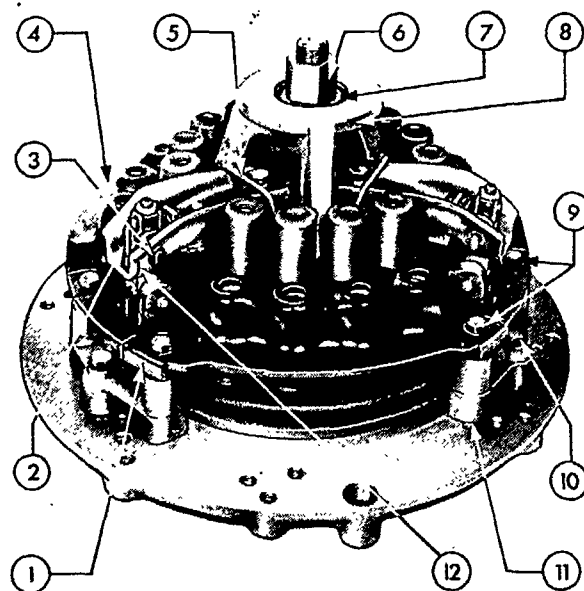
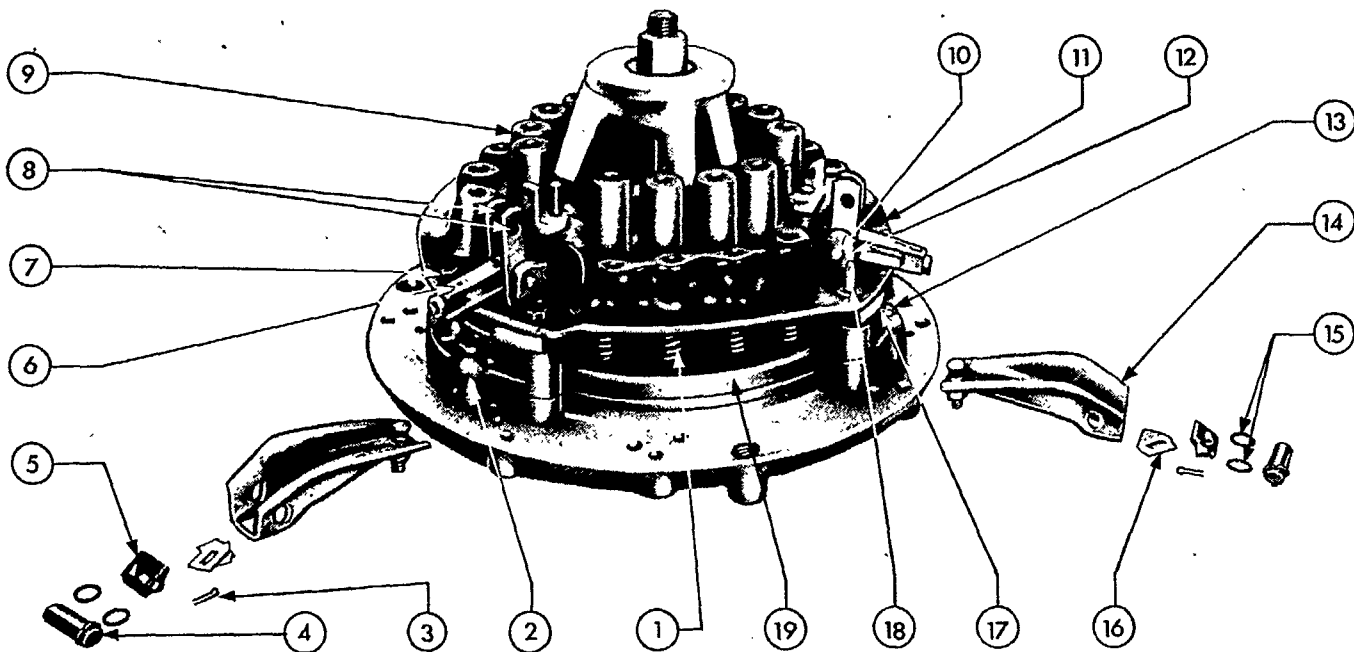
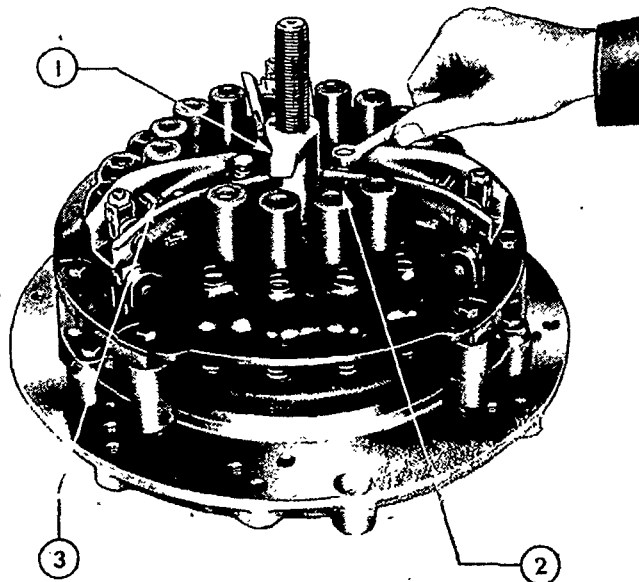
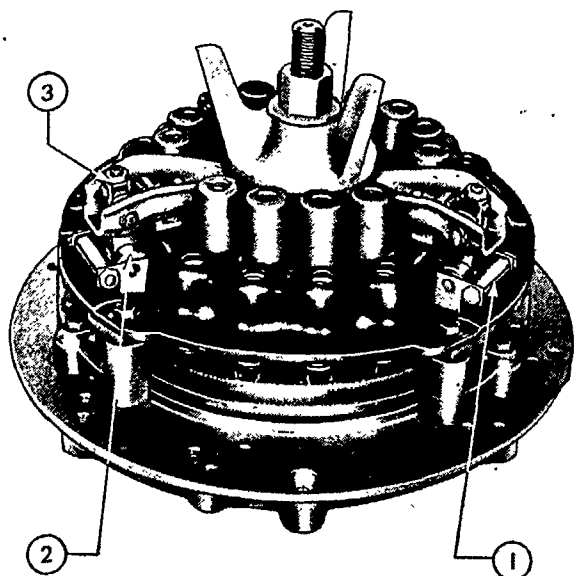

Figure 57
Figure 58
Figure 59
Figure 60
4. Attach the riser blocks to the fixture base by installing one short cap screw in each block. Figure 57 illustrates two of the blocks installed. Be sure to torque the cap screws equally.
5. Place the assembled clutch pressure plate and cover assembly on the fixture. Align the mounting holes in the clutch cover assembly with the holes in the riser blocks, and install one guide pin and one long cap screw in each block as shown in Figure 57. Do not tighten the long cap screws at this time.
6. Install the bridge, the thrust washer, and the spindle nut as shown in Figure 57. Be sure that the legs of the bridge are positioned at the center of each row of spring cups as shown.
8. After relieving spring tension on the release levers, tighten the long cap screws finger tight, then remove the release lever hold-down clips, Figure 57.
9. Remove the release lever retaining clip shims and clips, Figure 58, after first removing the cotter pins that hold them in place.
NOTE - It is suggested that the clutch cover assembly, the clutch pressure plates, and the release levers be marked for identification purposes before the clutch is taken apart. Doing this will enable the parts to be reinstalled in their original position and will maintain the balance built into the clutch. Figure 58 illustrates a good practice of keeping the parts in groups, while Figure 57 illustrates identification of parts.
10. Remove one cotter pin from one end of each strut, Figure 58, then remove the release levers by removing the struts. When removing the struts, exercise care to prevent losing the spacers.
11. Remove one snap ring from one end of each P.T.O. pressure plate connecting pin, Figure 58, then remove the P.T.O. pressure plate connecting links by removing the pins.
12. Remove the guide pins, Figure 58, and the long cap screws, then back off the spindle nut. Remove the nut, thrust washer, and bridge, then lift the clutch cover assembly from the clutch. Remove the P.T.O. clutch springs and cups, and the transmission clutch springs. Lift the P.T.O. clutch pressure plate, and clutch disc (not shown) from the clutch.
13. Lift the intermediate pressure plate, Figure 58, from the riser blocks, then remove the transmission pressure plate connecting links by removing the connecting pins (not shown). Lift the transmission clutch pressure plate from the fixture base.
1. Attach the riser blocks to the fixture base by installing one short cap screw in each block. Figure 57 illustrates the blocks installed. Be sure to torque the cap screws equally.
2. Place the transmission clutch pressure plate, Figure 58, smooth side "down", on the fixture base so the lugs on the plate are centered at each riser block. Install two transmission pressure plate connecting links between the lugs on the plate and retain them in place by installing the connecting pins (not shown). Position the pins so each end is flush with the lugs.
3. Place the intermediate pressure plate, Figure 58, smooth side "up", over the transmission clutch pressure plate so the "ears" of the intermediate plate straddle the lugs on the transmission plate.
4. Center the P.T.O. clutch disc over the intermediate pressure plate, Figure 58, then install the P.T.O. clutch pressure plate so the lugs on the plate straddle the transmission pressure plate connecting links. Be sure to install the clutch so the long end of the disc hub is "up".
5. Place the twelve transmission clutch springs, Figure 58, on the bosses of the transmission clutch pressure plate and nine P.T.O. clutch springs and cups, on the bosses of the P.T.O. clutch pressure plate. See "IMPORTANT CHANGES" in Section 1 of this Chapter.
6. Install one guide pin, Figure 58, in each riser block, then install the clutch cover assembly over the partially assembled clutch so the spring cups and transmission pressure plate connecting links pass through the openings of the cover assembly. Check the transmission clutch springs to see that they are properly seated in the "cups" of the cover assembly.
Drop one long cap screw, Figure 58, into place at each block, but do not tighten at this time. Install the guide, thrust washer, and spindle nut as shown in Figure 58. Be sure that the legs of the bridge are positioned at center of each row of spring cups as shown.
Slowly draw the clutch cover assembly down over the pins on the P.T.O. clutch pressure plate, Figure 58, by tightening the spindle nut until the cover assembly contacts the intermediate clutch pressure plate. Exercise care to prevent the guide from catching on the cover. To prevent distorting the top of the cover, do not overtighten the spindle nut.
After the cover has made contact with the intermediate pressure plate, remove the guide pins, Figure 58, and replace them with the long cap screws. Torque the screws equally in a diagonally staggered manner. See Chapter 4, "SPECIFICATIONS", for torque values.
10. After torquing the screws, remove the spindle nut, the thrust washer, and the bridge, Figure 58.
11. Install the P.T.O. pressure plate connecting links, Figure 58, between the transmission pressure plate connecting links and retain them in place by installing the connecting pins. Retain the pins in place by installing the snap rings. Be sure the snap rings are seated in the grooves of the pins.
12. Position the P.T.O. pressure plate connecting links, Figure 58, so they are parallel with the transmission pressure plate connecting links, then install the release levers. Retain the levers in place by installing the struts. Be sure one spacer is positioned between each transmission pressure plate connecting link and the inner walls of the release levers before installing the struts. Retain the struts in place by installing new cotter pins. Figure 57 illustrates one of the spacers and struts properly installed.
13. Install the release lever retaining clips, Figure 58, over the fulcrum brackets of the clutch cover assembly then place the release lever retaining clip shims over the clips. Be sure the clips are installed so the flat side is "up" and so the closed end is towards the center of the clutch assembly. Retain the shims and clips in place by installing new cotter pins. Figure 59 illustrates proper installation of the cotter pins.
NOTE - After installing the cotter pins, check the clips, Figure 58, and shims for "up and down" end play. If end play exists, remove the cotter pins and add additional shims. The shimming should be such that a slight pre-load is established when the cotter pins are installed.
14. Install the Gauge Spacer, Tool No. SW510-5B, over the fixture spindle so the identifying number is "up", then install the release lever gauge as shown in Figure 59.
15. Loosen the hexagon nuts on the underside of the release levers then adjust the adjusting screws, as shown in Figure 59, until a slight drag can be felt when the "foot" of the release lever gauge is rotated across the levers. Apply light pressure to the gauge to obtain an equal "feel" on each lever.
17. Remove the release lever gauge, Figure 59, then install the bridge, the thrust washer, and the spindle as shown in Figure 60. Raise the clutch pressure plate by tightening the
spindle nut until the Gauge Spacer Assemblies, Tool No. SW510-6, can be installed as shown in Figure 60. Adjust the nut on the spacer assemblies so the spacers are held in place as shown.